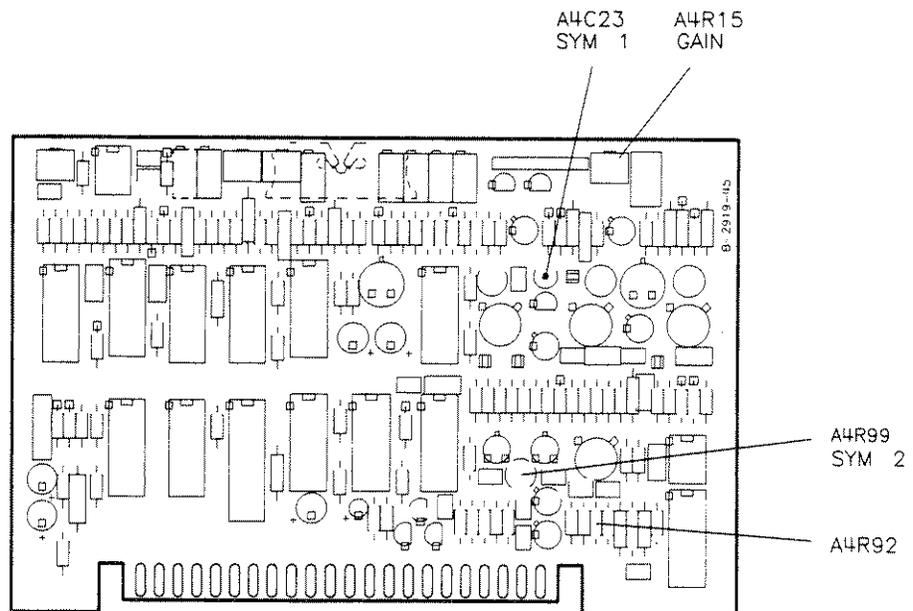
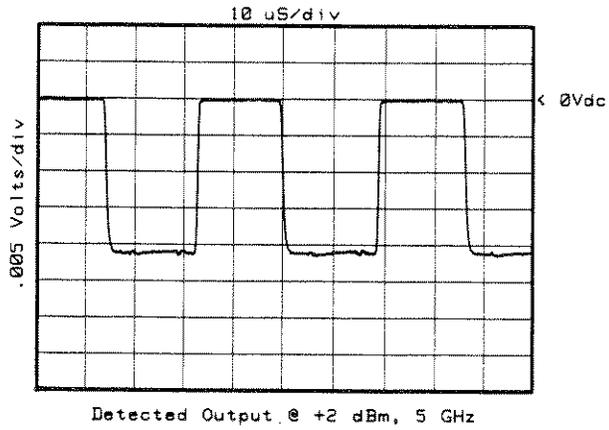

Figure 5-43. Squarewave Symmetry Adjustment Locations
Figure 5-44. Optimum Squarewave
- Alternately adjust A4C23 (SYM 1) and A4R99 (SYM 2) for the waveform shown in figure 5-44. Adjust for minimum overshoot and ripple during the *on* portion (most negative) of the squarewave. Figure 5-43 shows adjustment locations.
Check that the squarewave resembles that shown in figure 5-44. If not adjust A4C23 and A4R99 for the best squarewave while alternately checking the squarewave at 1 GHz.